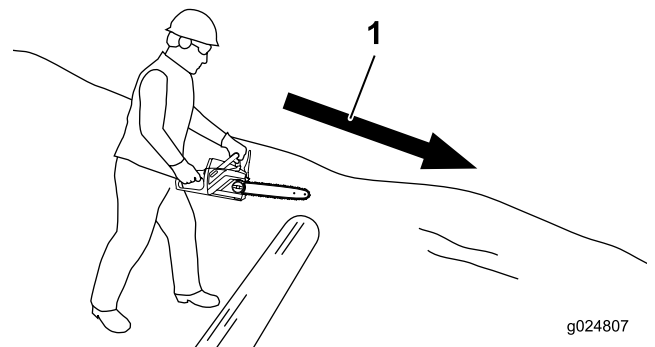

Figure 21
- If the log is on a hill, always stand on the uphill side of the log (Figure 21).